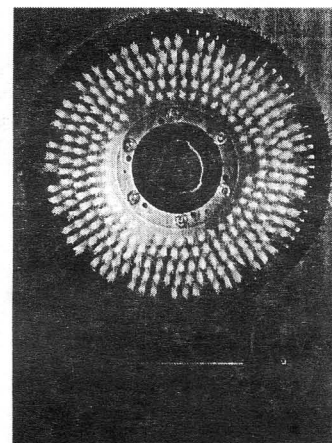

Figure 2
1. Lock the handle in the upright position and tip the machine back so it rests on the handle and wheels. Fit the three slots of the clutch plate in the back of the brush or pad driver over the three lugs of the drive plate. Push it firmly into position and turn it counterclockwise until it locks in place. (Figure 2)